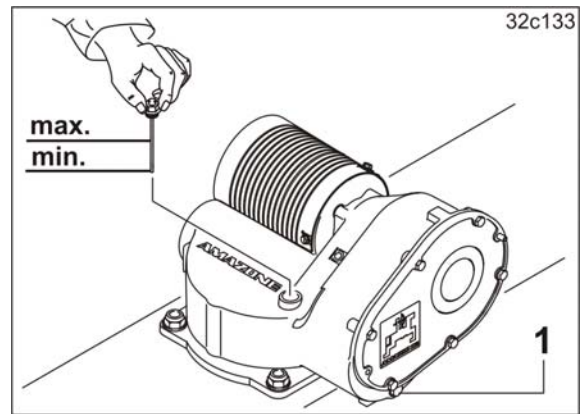

Fig. 178
2. Unscrew the oil drain screw (Fig. 178/1).